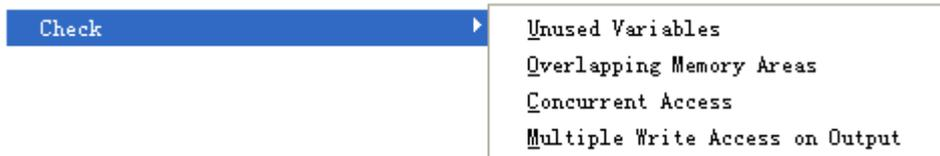

Figure 2-3-9 Check Sub-menu
- **Project [P]/Check:** View information of variables, as shown in figure 2-3-9. *Refer to section 8.2.3 for details.*